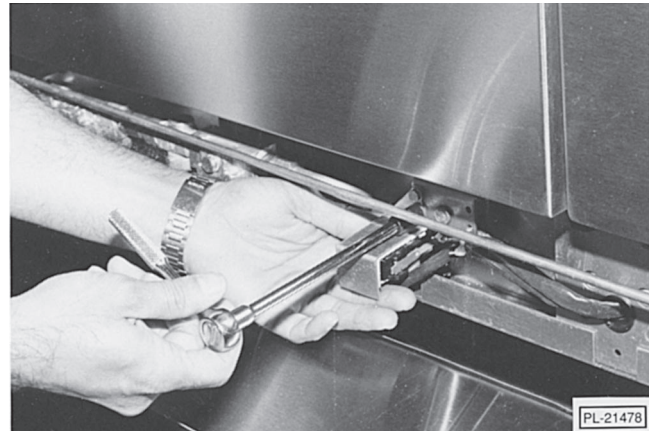

Fig. 48
3. If a short-handled screwdriver is not available, remove (2) screws securing micro switch housing to unit (Fig. 48). This will allow convenient access to the switch in order to use a standard size screwdriver.
2. Locate micro switch and remove (2) screws holding switch housing to unit (see Fig. 48).